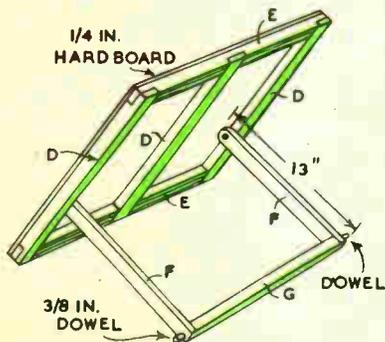

Fig. 3
The backrest is made up from $\frac{3}{4}$ in. plywood or hardboard, Fig. 3, and measures 2ft. by 20ins. overall. It is framed at the back by pieces (E) and (D) cut from $1\frac{1}{2}$ in. square wood. Halve these pieces together and secure to the plywood by means of screws. The struts (F) are cut from $\frac{3}{4}$ in. wood, 1in. wide. Fix the crosspiece (G) in position by means of $\frac{3}{4}$ in. dowels, which will pro-
ject $\frac{1}{4}$ in. as indicated in Fig. 3. Use waterproof glue on these joints to give extra strength. Pivot the struts to the inside of pieces (D) as shown.